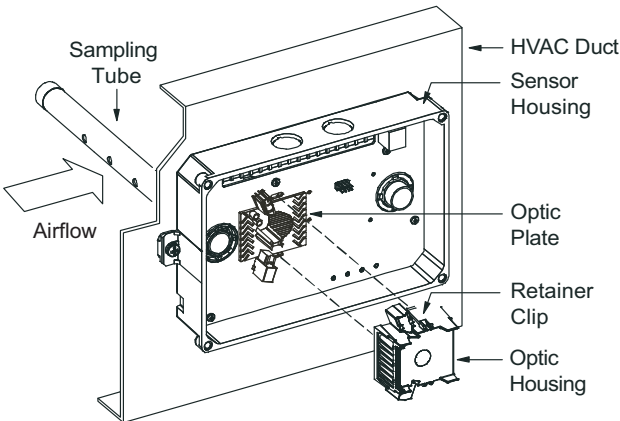

Fig. 45 — Sensor Cleaning Diagram
- 1. Disconnect power from the duct detector then remove the sensor’s cover. (See Fig. 45.)